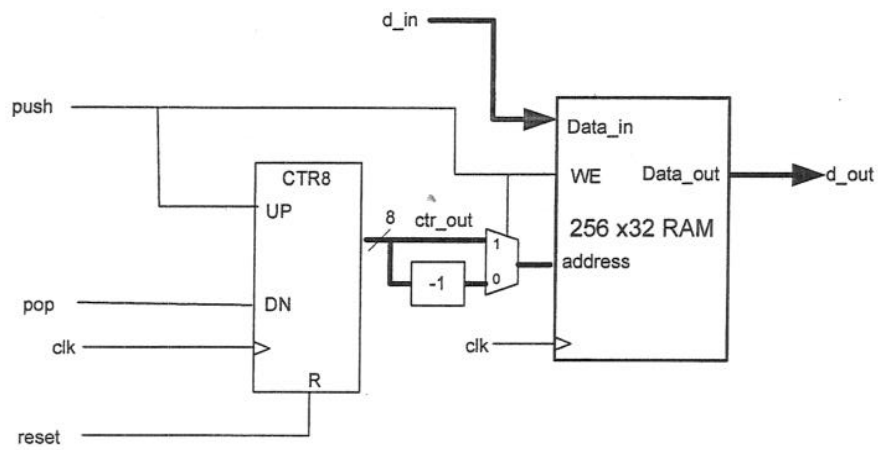

Figure 6.3
- b) *Figure 6.3* shows a simplified block diagram of the LIFO circuit. Assuming that the counter was originally reset to 0, draw a timing diagram showing the operation of the LIFO for the sequence of operations: push, push, push, nop, pop, push, pop, push, push, push, pop, pop. Your diagram should include the signals: *clk*, *push*, *pop*, *ctr_out*, and the address read/written to the block RAM.
- c) Modify the circuit shown in *Figure 6.3* to include the LIFO full and empty detection.